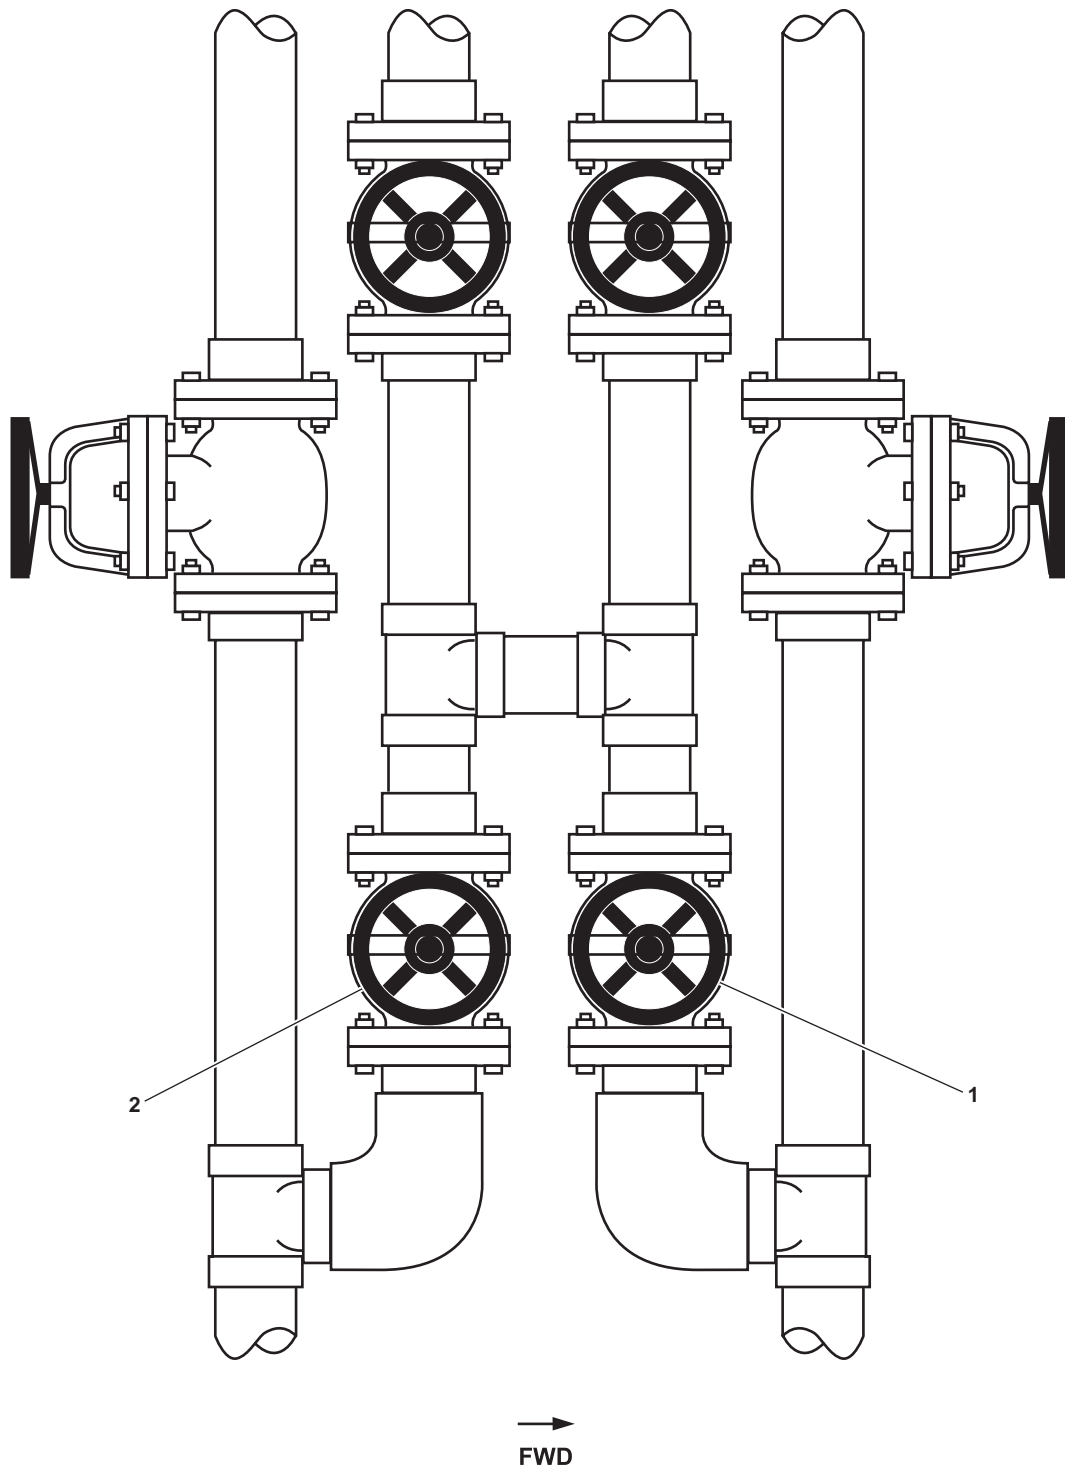

Figure 1. Fire and General Service Pump Valves
- a. FM-17, FIRE/G.S. PMP No. 1 DISCH TO GS (figure 1, item 1)
- b. FM-15, FIRE/G.S. PMP No. 2 DISCH. TO GS. (figure 1, item 2)